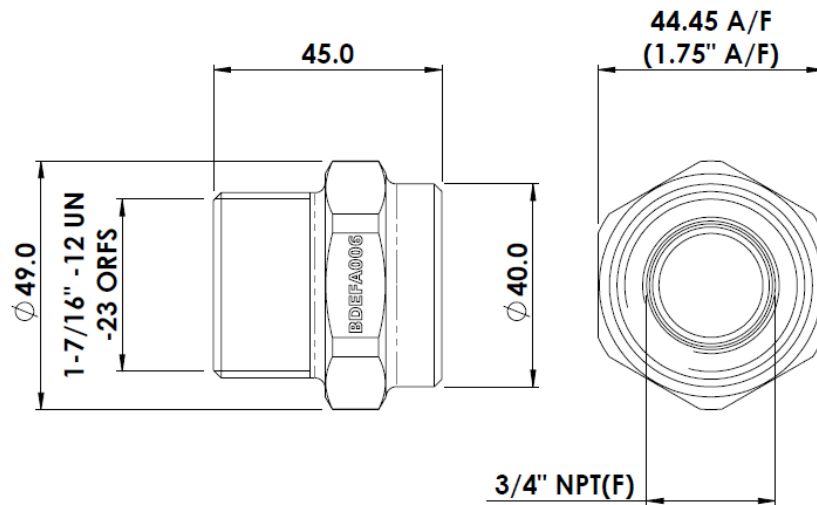

Figure 19 – Details of BDEFA006 Adaptor
| BDEFA006 (Figure 19) | Adaptor, DEF, 1-7/16" -12 UN(M) x ¾" NPT(F) | ¾" NPT(F) 1-7/16" -12 UN male | Adapts Banlaw DEF receiver to replace Hartmann -16 DEF receiver |